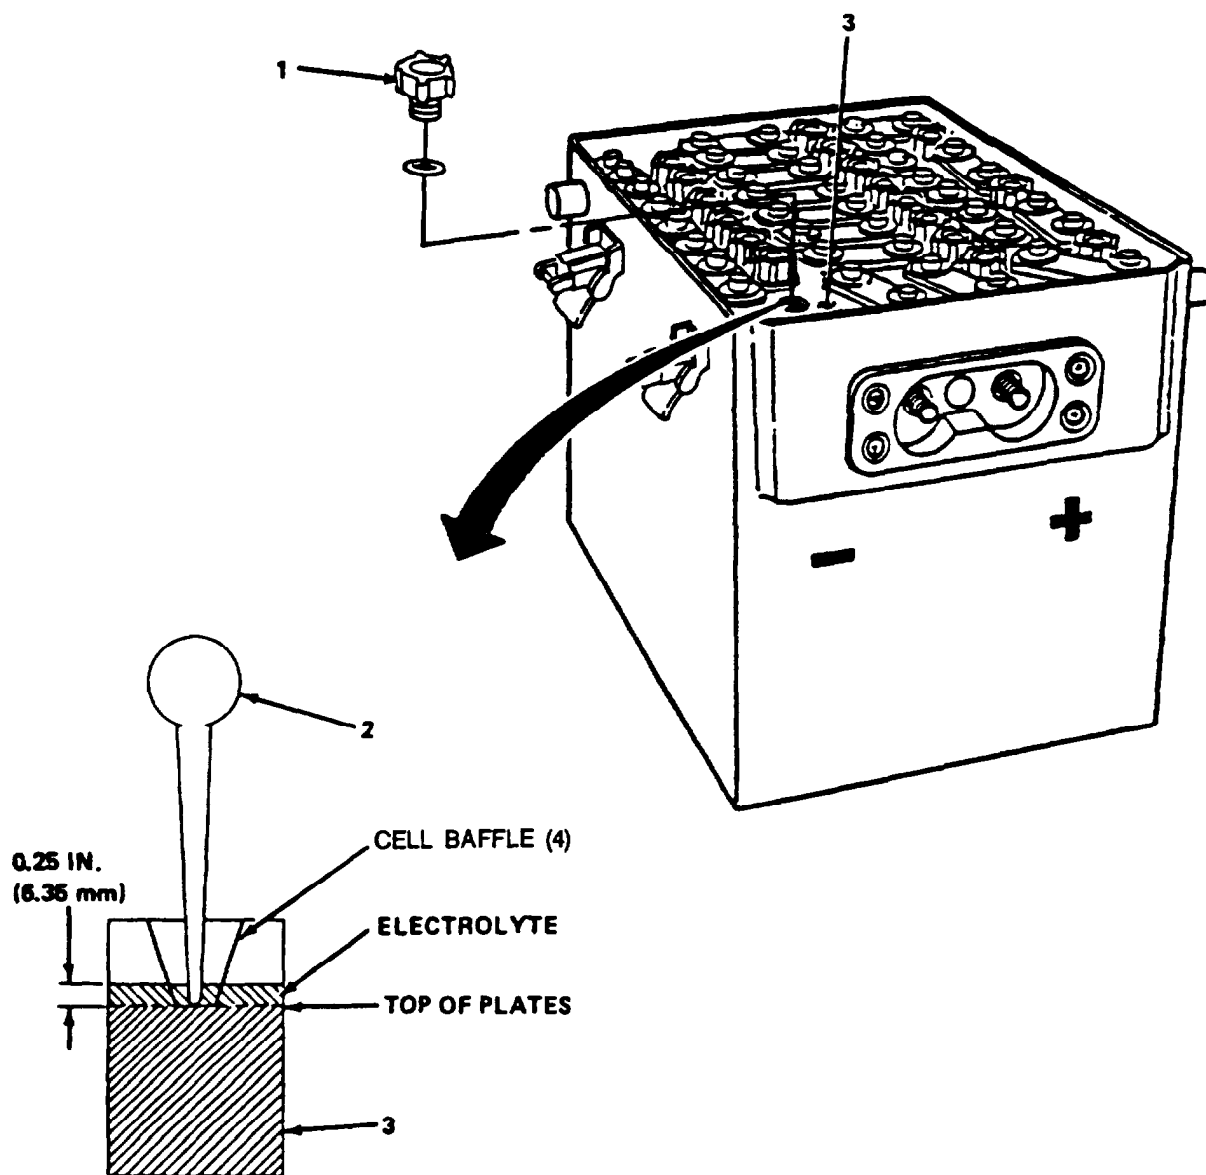

Figure 3-9. Electrolyte Level Adjustment (All batteries except BB-558/A.
a. All Batteries Except BB-558/A (fig. 3-9). Refer to subparagraph b, below, for adjusting electrolyte level in Battery BB-558/A.
- (1) Refer to table 3-9 for required sitting time of battery after charging has been completed.
- (2) Remove all filler caps (1) using filler cap wrench.
- (3) Fill syringe (2) with distilled water (item 4, Appendix C). Refer to Appendix D for procedures to modify a syringe if one already modified is not available.
- (4) Insert syringe (2) into cell (3) until it rests on cell baffle (4).
- (5) Slowly squeeze the bulb on syringe (2) until the bulb is empty or the electrolyte is just below the mouth of the cell (3). Do not overfill cell.